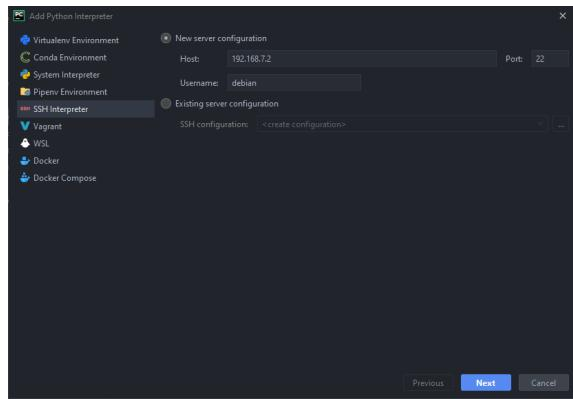

Figure 4.14: PyCharm SSH Credentials
4. Enter credentials just like other SSH utilities in the guide (Fig. 4.14)